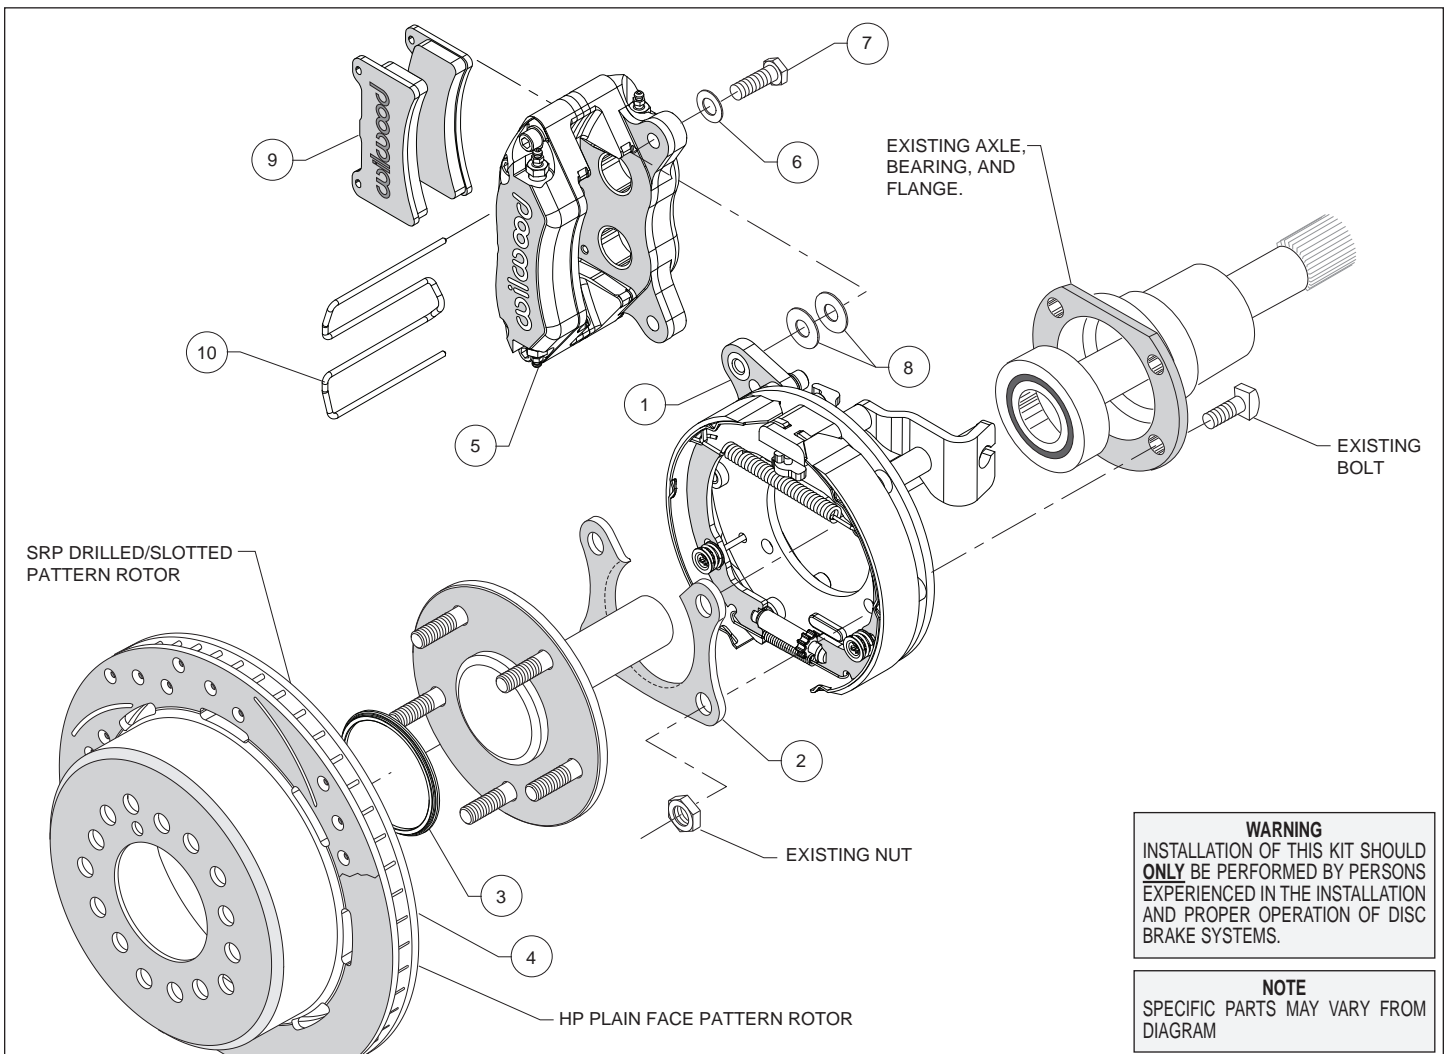
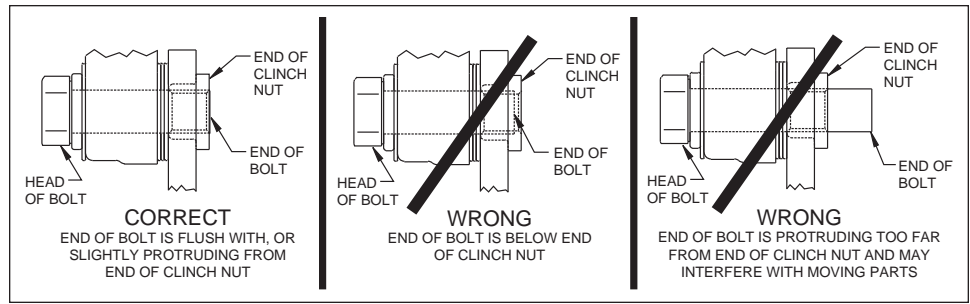

Figure 1. Typical Installation Configuration
Figure 5. Clinch Nut Engagement Diagram
**Assembly Instructions** (numbers in parenthesis refer to the parts list, and Figure 1 on the preceding pages): **CAUTION:** All mounting bolts must fully engage clinch nuts. Be sure to check that all bolts are either flush or protruding through flanged side of clinch nut after shimming, Figure 5.
- Orient the bracket assembly (1) as shown in Figure 1 and Photo 1 and slide it onto the axle. Insert the axle and bracket into the axle housing. Ensure that the bracket assembly backing plate fits flush against the axle housing flange.
- Install the bearing retainer (2) with the opening pointing upward and the lip facing inward (toward the bearing), as shown in Figures 1 and 4, and Photo 2. Secure retainer and bracket assembly to the axle housing flange using the Original Equipment Manufacturer (OEM) bolts and nuts, Figure 1. Apply red *Loctite*® 271 to the OEM bolt threads and torque to OEM specifications.
•Slide the rotor registration adapter (3) onto the axle register on the axle flange with the smaller O.D. facing toward the rotor/hat (4), Photo 3. Align the correct hole pattern in the rotor/hat with the stud pattern on the axle flange and slide into place, Figure 1 and Photo 4. **NOTE:** The rotor/hat must fit flush against the axle flange or excessive rotor run out may result. Install three lug nuts (finger tight) to keep the rotor/hat assembly in place while continuing with the installation. **NOTE:** Some OEM and after market axles come with stud sizes larger than 0.50" diameter. Verify stud size and have a qualified machine shop drill the bolt circle of the hat/rotor to the correct stud size, if necessary.
•**NOTE:** Please reference the caution statement at the beginning of the assembly instructions. Mount the caliper (5) onto the caliper mounting bracket (1) using bolts (7) and washers (6), as shown in Figure 1. Initially place two .035" thick shims (8) on each bolt between the caliper and the bracket, Photo 5. Temporarily tighten the mounting bolts and view the rotor (4) through the top opening of the caliper. The rotor should be centered in the caliper, Photo 6. If not, adjust by adding or subtracting shims between the bracket and the caliper. Always use the same amount of shims on each of the two mounting bolts. **NOTE:** The end of each bolt must be flush with or slightly protruding from the head of the clinch nut, as shown in Figure 5. If necessary place spare shims between washer (6) and caliper mounting ear to achieve the proper clinch nut engagement. Once the caliper alignment and clinch nut engagement are correct, remove the bolts one at a time, apply red *Loctite*® 271 to bolt threads, and torque to 40 ft-lb.